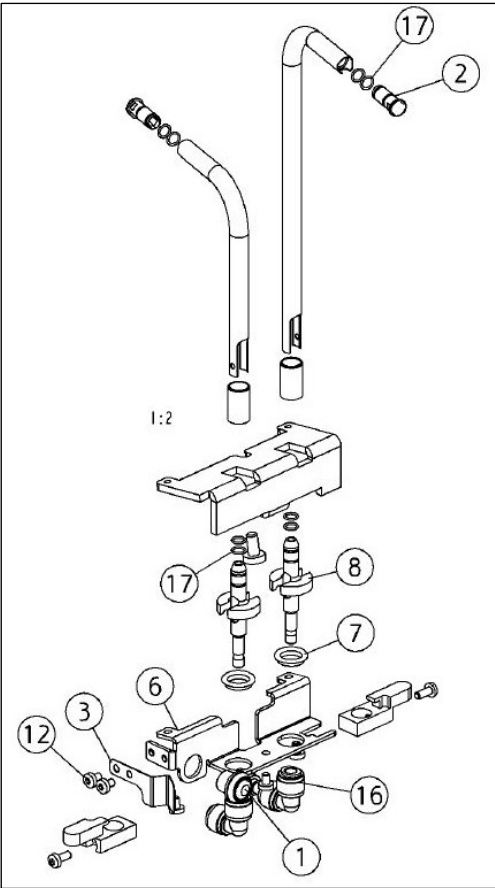

Figure 10
C10	Replace the fittings (UG-657) & (UG-656) under the top plate on the connectors for cup filler and cuspidor – see (16) in Figure 10.